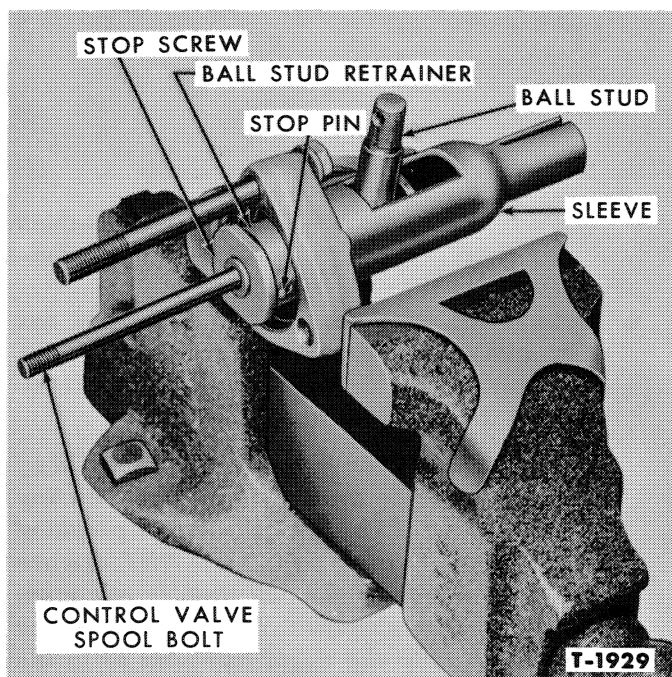

Figure 27—Sleeve and Flange Assembly with Control Valve Removed
7. Place the control valve sleeve and flange assembly in a vise and remove the dust shield from the top of the sleeve at the ball stud, Figure 27.
of the sleeve. Then, remove the stop pin from the stop screw, Figure 27.